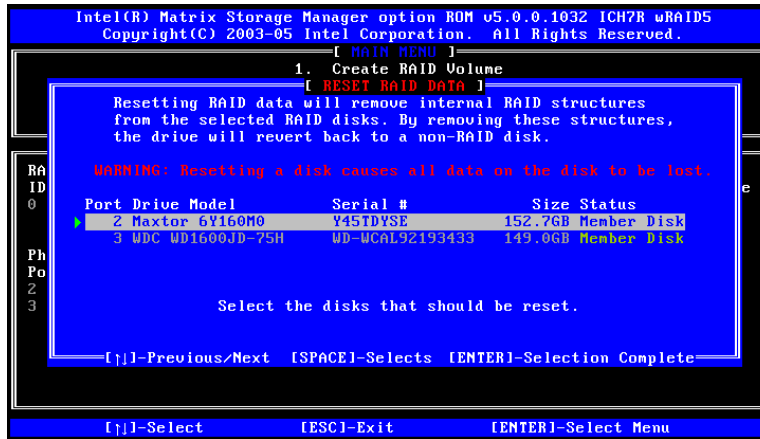

Figure G-13: Select Disk to Reset
Step 2: Select Disks to Reset. Use the arrow keys to scroll through the disk drives and press **SPACE** to select which drives are to be reset as non-RAID. After all the disks to be reset have been chosen, press **ENTER**. See **Figure G-13**.